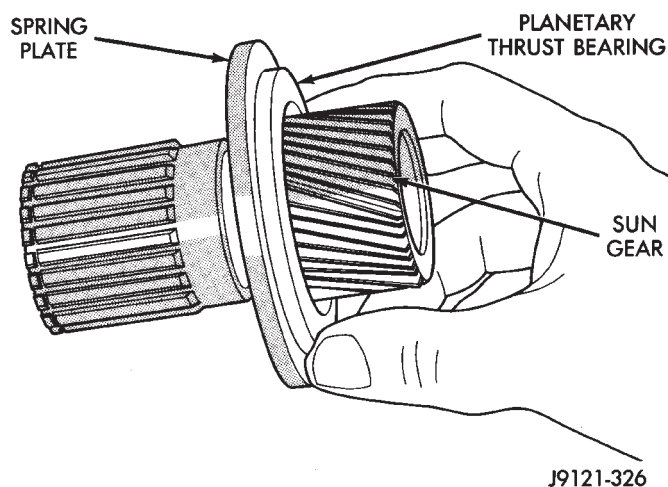

Fig. 286 Planetary Thrust Bearing Installation
(13) Coat planetary thrust bearing and bearing contact surface of spring plate with generous amount of petroleum jelly. This will help hold bearing in place during installation.
(14) Install planetary thrust bearing on sun gear (Fig. 286). Slide bearing onto gear and seat it against spring plate as shown. **Bearing fits one way only. If it does not seat squarely against spring plate, remove and reposition bearing.**